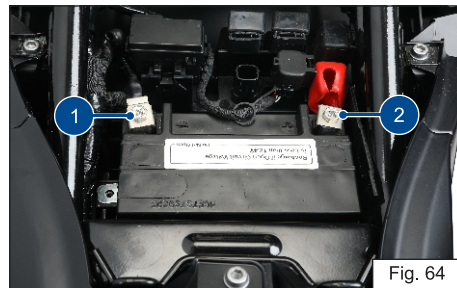

Fig. 64
- ◆ Disconnect the negative terminal (1) first followed by the positive terminal (2) (ref. Fig. 64). Carefully take out the battery.